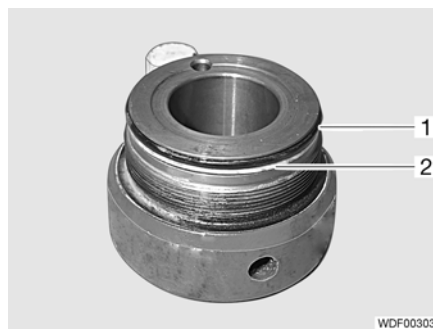

Fig. 198 Inside of the guide bush
- Remove O-ring (Fig. 198,1).
- Remove support ring (Fig. 198,2).